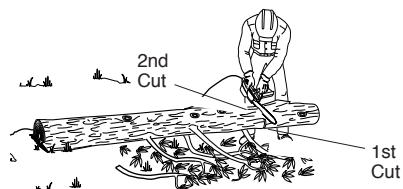

Figure 17 - Bucking Log When Log Is Supported On One End
1. Make first cut on underside of log (see Figure 17). Use top of guide bar to make this cut. Cut 1/3 through diameter of log. This cut will keep section from splintering when cut.